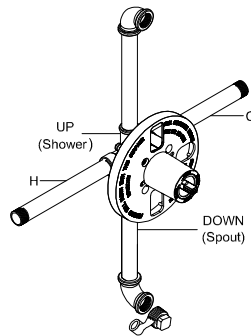

Fig .2
- Position valve body correctly in wall (see Fig. 2). UP marking is on up side and DOWN marking on down side.